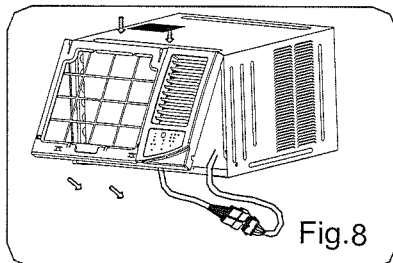

Fig.8
- Install the frame and connect the coupler plugs, making sure not to interfere with the temperature sensor cable (See Fig.8).